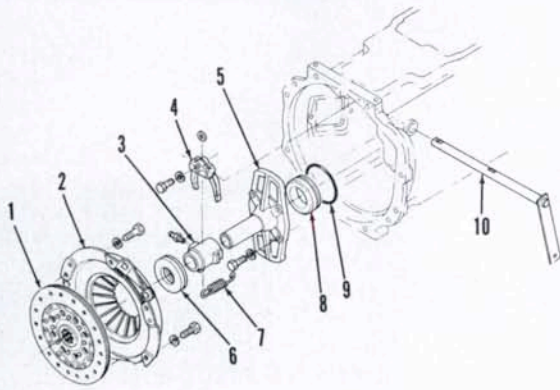

Fig. 93—Exploded view of single plate clutch assembly used on some models.
65. Refer to Fig. 93 for an exploded view of single plate clutch assembly. Clutch cover and pressure plate (2) are available only as an assembly; all other components are available individually.